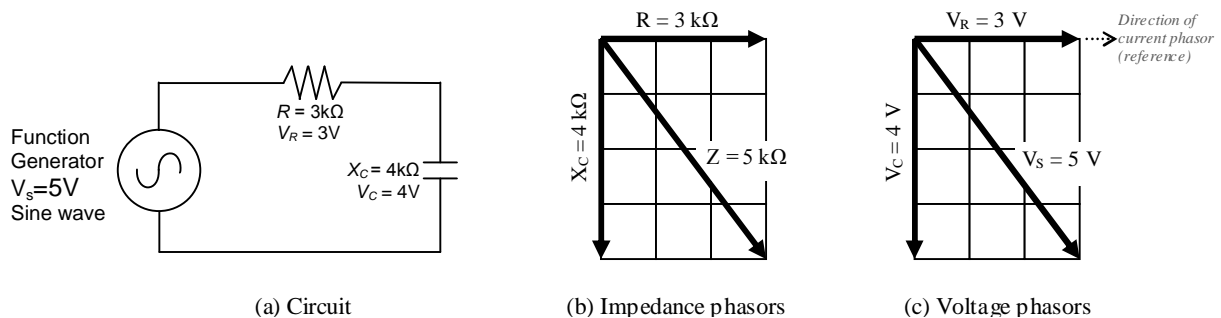
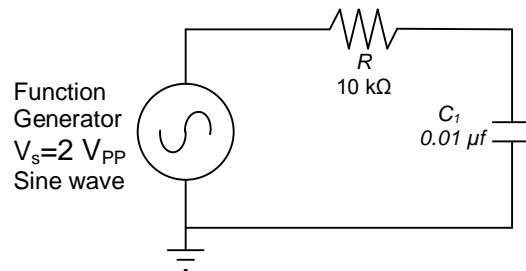

Figure 3.2
Figure 3.3
Written: (1) In your lab notebook sketch the circuit diagram to be used in the procedure and prepare Tables 3.1 and 3.2 to record data. (2) Sketch the impedance and voltage phasors diagrams (as in Figure 3.2) you would get at 500 Hz for the circuit in Figure 3.3. (3) Make a table of the magnitudes and phase angles. You will use this to check that your experimental setup is correct.
A series RC circuit is illustrated in Figure 3.2(a) and a phasor diagram of its impedances is shown in Figure 3.2(b). The vector for resistance R is shown along the Real (X) axis, while the reactance X_C is shown in the negative Imaginary (Y) axis, since its voltage trails its current by 90° . The vector sum of R and X_C is labeled Z and has magnitude $5\text{ k}\Omega$. Therefore, the magnitude of the current through the circuit is $V_S / Z = 1.0\text{ mA}$.
Notice that the current phasor is in the same as the direction of the voltage across the resistor, because voltage and current are in phase for a resistor. The current is the same throughout the series circuit, including the capacitor, and the voltage across the capacitor trails the current by 90° . The source voltage is the **vector sum** of the voltages across the resistor and the capacitor, as is illustrated in the phasor diagram, Figure 3.2(c).
- Using the resistor R and capacitor C_1 , connect the series RC circuit shown in Figure 3.3. With the circuit connected, adjust the supply voltage V_S to 2.0 V peak-to-peak at 500 Hz. Check the voltage V_S on CHANNEL 0 of the oscilloscope and record its value in table 3.2.
12. Draw impedance and voltage phasors (as in Figure 3.2) for frequency $f = 1000$ Hz.